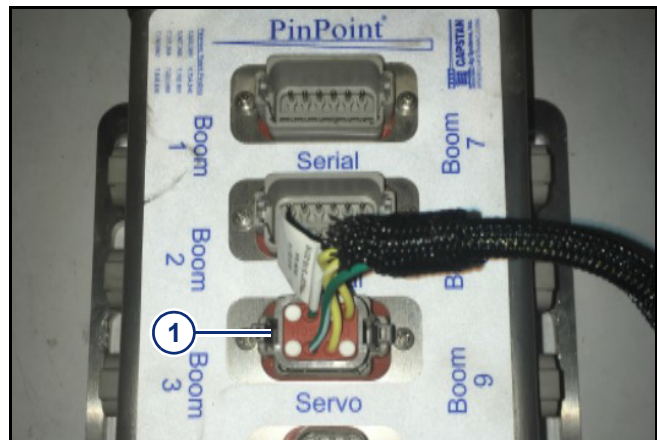

Figure 4
- [Figure 4]** - Remove the wire (1) with the 2-pin Deutsch connection from the PWM cartridge.
- Install the 2-wire resistor adapter (2), provided in the kit, onto the wire removed from PWM cartridge.
4. **[Figure 4]** - Install the Synchro[®] adapter cable (1) onto the 2-wire resistor adapter (2) and into the PWM cartridge (3).
6. **[Figure 4]** - Plug in the 8-pin connection (1) into the Servo port on the Gateway Hub.